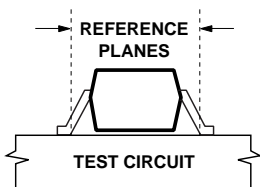

Figure 9. Reference Planes.
3. Reference plane per Figure 9 in Applications Information section.
The positions of the reference planes used to measure S-Parameters are shown in Figure 9. As seen in the illustration, the reference planes are located at the point where the package leads contact the test circuit.